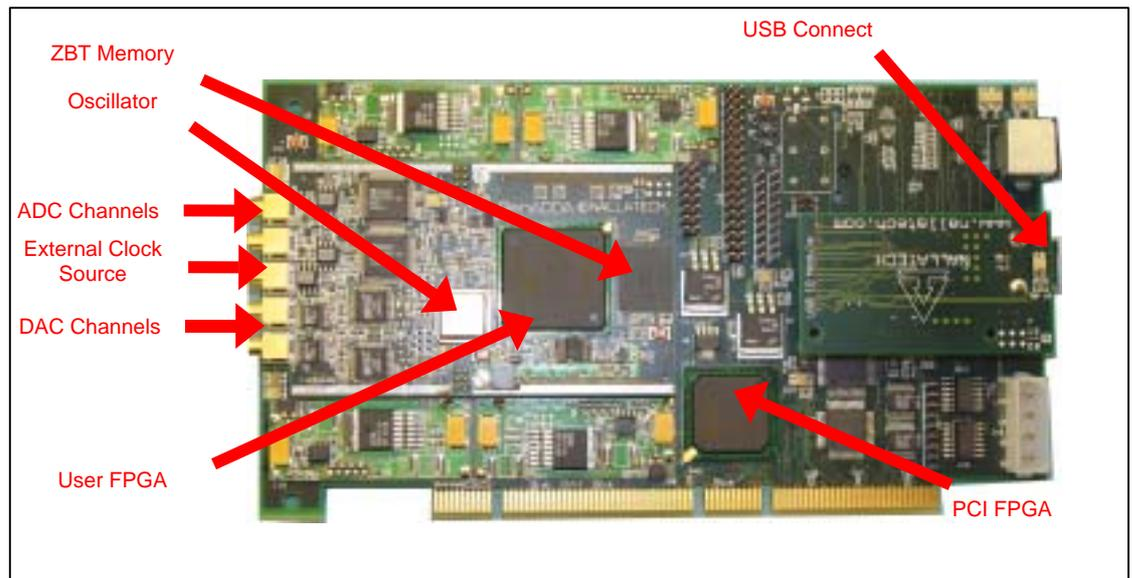

Figure 1: Hardware features relating to connection and installation
2. Apply power to the BenONE card (see Figure 1)